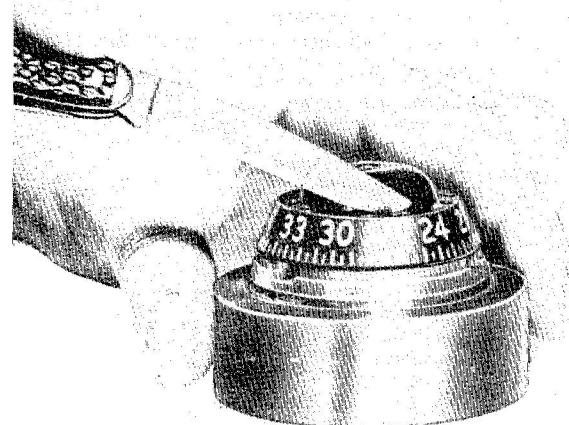
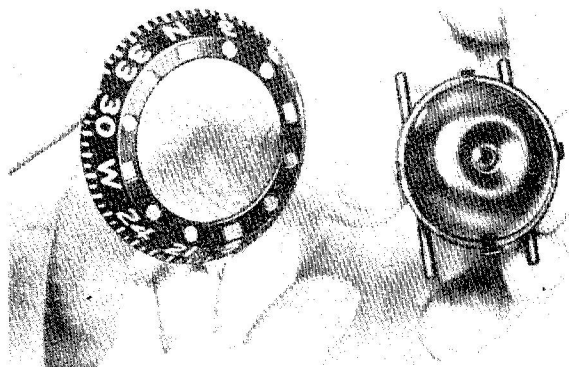

Figure 22 — Turn Back Float Ears
Figure 23 — Remove Float
1. Place the card on the card-and-float-assembly jig (figure 34). Place the protection cap (figure 33) over the top of the float and, with a pocket knife or other thin-bladed tool, bend back the ears of the float (figure 22), and remove the float. (See figure 23.)